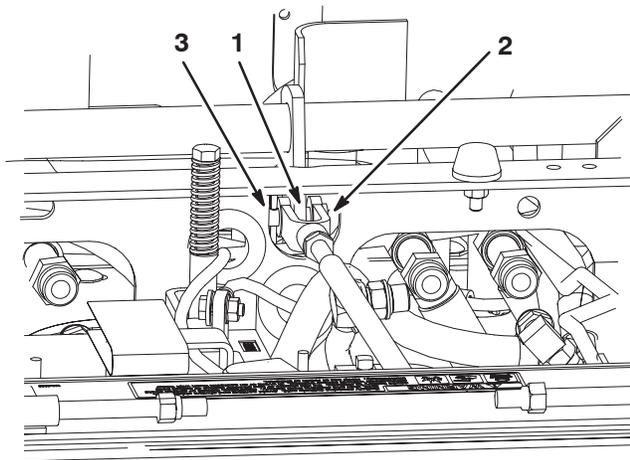

Figure 59
5. Remove the hairpin and cotter pin from the brake linkage (Fig. 59).
6. Adjust the yoke clockwise to shorten the distance; counterclockwise to lengthen distance (Fig. 59).